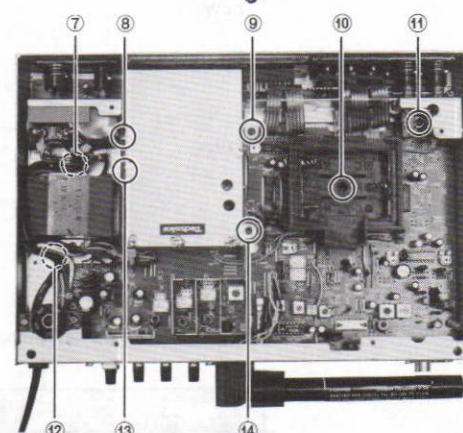

Fig. 2
4. Remove the 6 setscrews (⑦,⑨~⑫,⑭ in Fig. 2) used to fasten the printed circuit board.
6. Remove the 2 setscrews (⑧,⑬ in Fig. 2) used to fasten the shield cover.